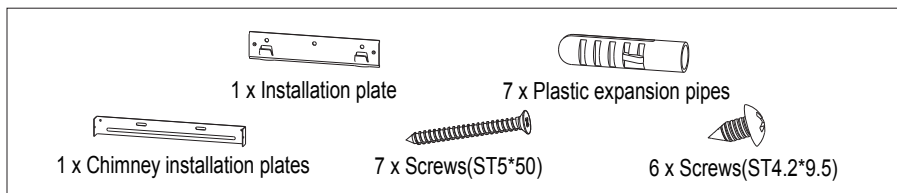

Fig.3
- Accessories. See Fig.3. (Type and quantity of accessories is subject to actual demand.)